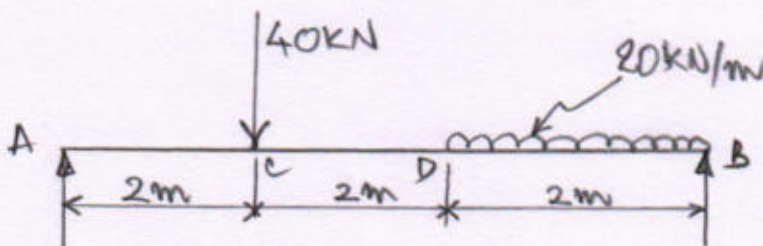

Fig 2(b)
b) Find the maximum deflection and the maximum slope for the beam loaded as shown in fig 2 (b). Take flexural rigidity $EI = 15 \times 10^9$ k N/mm². (09 Marks)